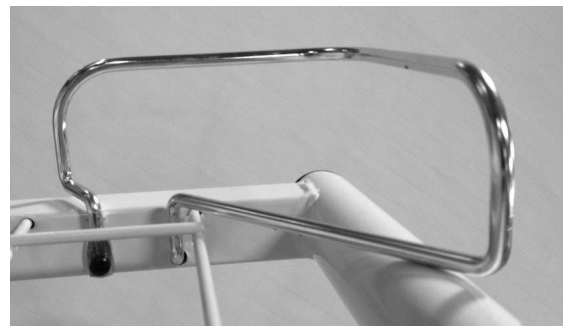

Figure 10
3. Position and insert the mattress stops in the holes provided (Figure 10). Reinstall the screws removed in step 2.